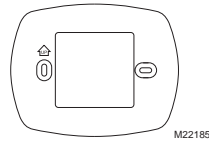

Fig. 23. Cover plate.
1. Cover Plates (see Fig. 23):